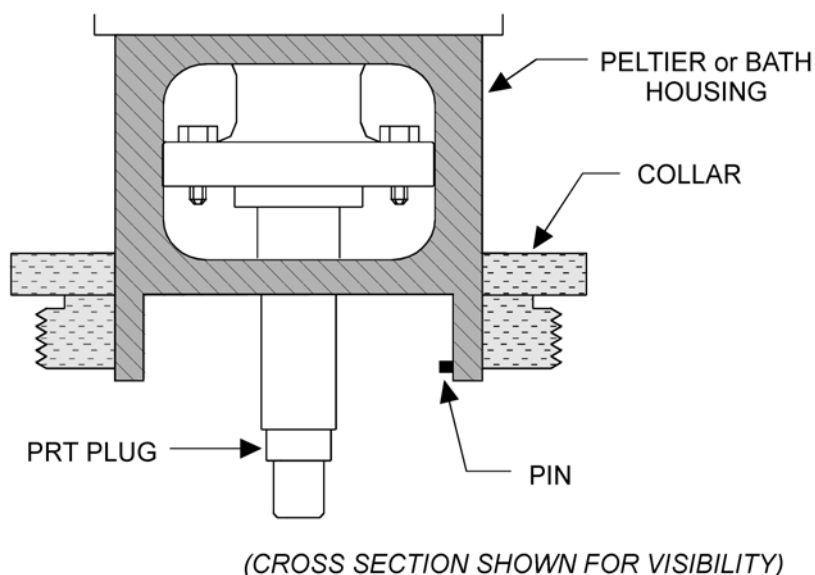

Figure 2-30. Peltier Alignment Pin
- The Pin (Figure 2-30) machined into the bottom of the Peltier Assembly is seated into the notch in the ARES Motor Housing (the Pin and notch should be located toward the rear of the instrument). It may be necessary to rotate the Peltier Assembly back and forth until the Pin falls into the notch.